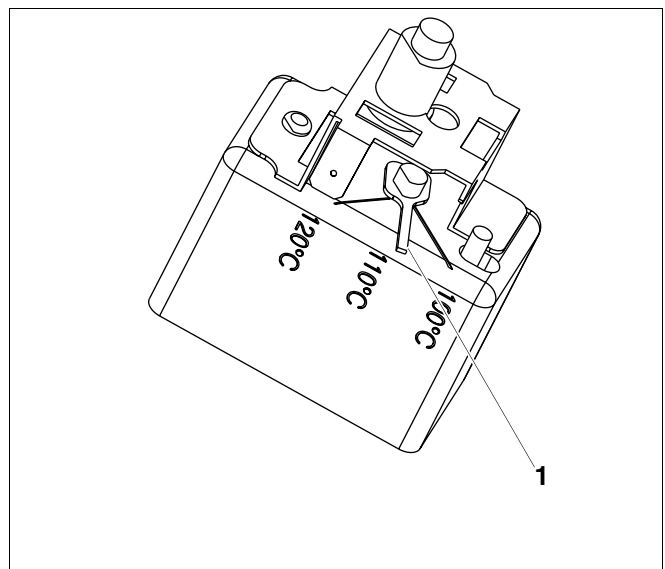

Fig. 4 Version B
#### 2.2.2 Fig. 4 Version B
- Move the lever (Fig. 4, **Item 1**) to the required temperature.